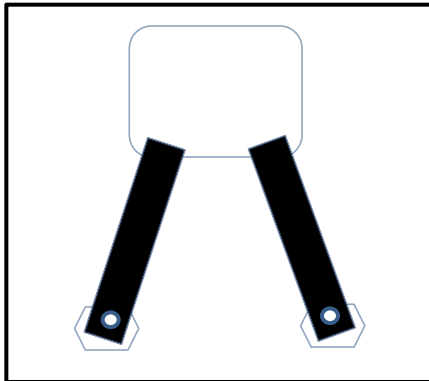

Figure 1: 09 - 14 RAM 1500, 2500, 3500, exc. 2014 1500 Quad Cab.
Step 3: Using the 3/8" threaded clips, slide two clips in the upper rectangular hole, and align one clip in each hex hole so the clip threads are visible. **(Figure 1) PLEASE NOTE:** If vehicle has pre-threaded inserts in the body, these must be removed. You may use a short-tip, 1/2" drill bit to open these hole locations to apply the clips into the body.